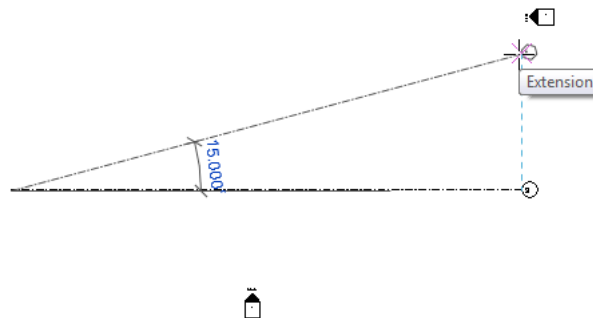

Figure 3-58 The grid line displaying the angular dimension and an alignment line
- Click when the temporary angular dimension displays **15.00°** and an alignment line appears from the endpoint of the previous grid line, refer to Figure 3-58.